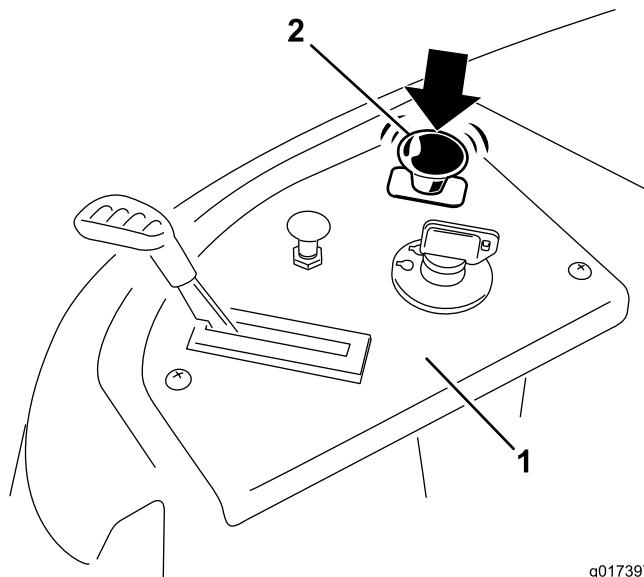

Figure 17
Push down on the blade-control switch to move it to the Off position, and disengage the blades (Figure 17).
1. Disengage the blades by moving the blade-control switch to Off (Figure 17).